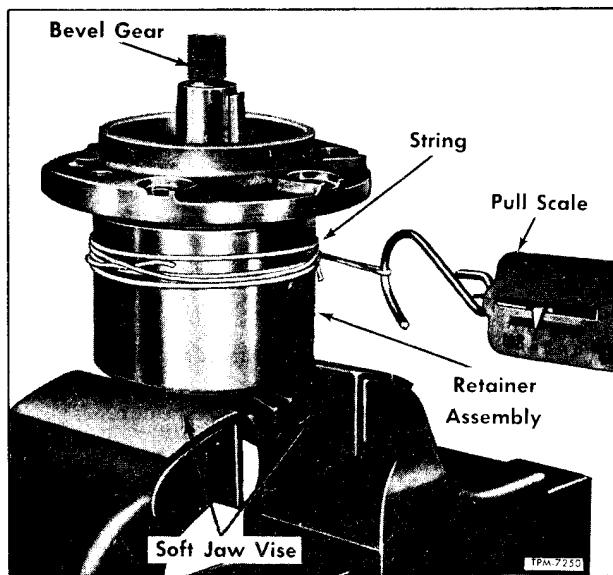

Figure 74—Checking Bevel Gear Bearing Adjustment
6. Install outer bearing cone (8), adjustment nut lock (6) and adjustment nut (3). NOTE: Care should be taken to prevent nut lock from turning with adjustment nut.
a. Wrap a heavy cord around bearing retainer and attach a spring scale as shown in figure 74.
b. Use a deep spanner wrench to tighten bearing adjustment nut (3) to 175 to 200 foot-pounds torque. Rotate bearing retainer by pulling on spring scale. Correct bearing preload will require a 4-1/2 to 9-1/2 lbs. pull to rotate retainer. If necessary, replace bearing adjustment spacer (10) with another size.